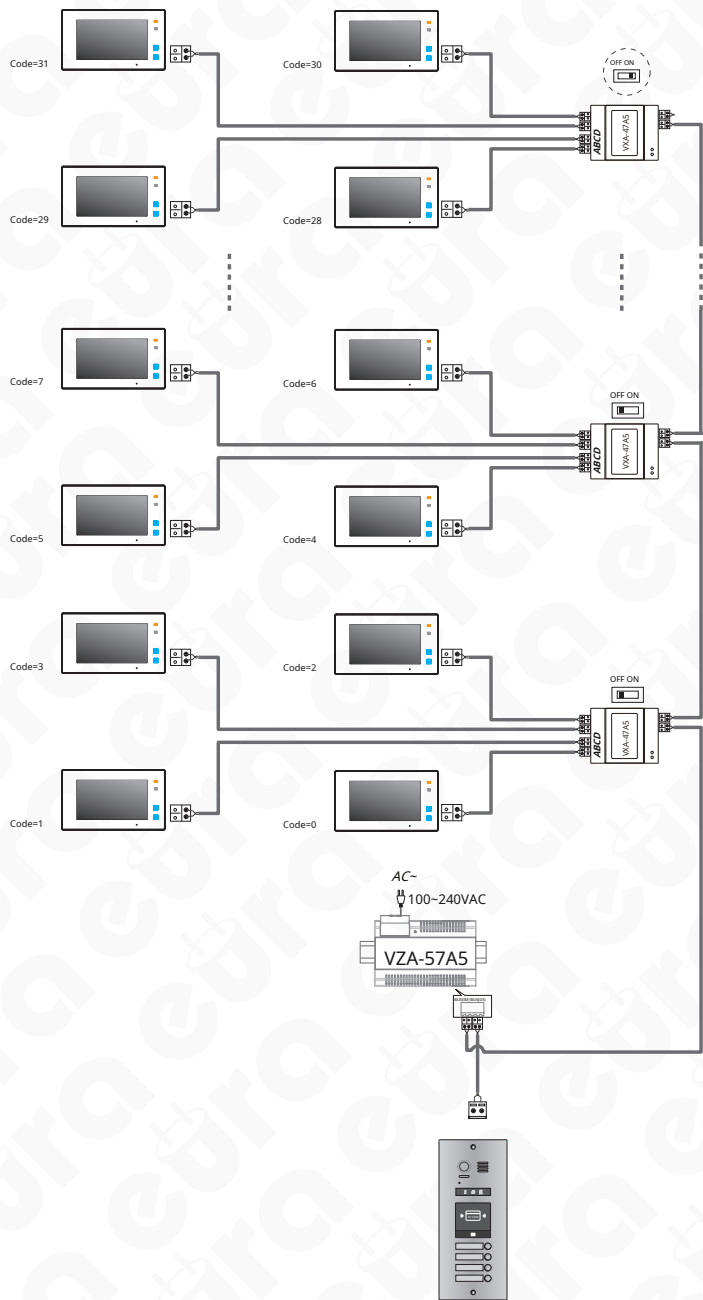

Fig. 7. Connection diagram of a modular cassette with monitors using the VXA-47A5 signal distributor
6.1. CONNECTION DIAGRAM OF THE CASSETTE WITH OTHER SYSTEM MODULES The method of connecting the modular multi-family cassette with the VZA-57A5 power supply module, the VXA-47A5 module and the monitor is shown in Fig. 7.